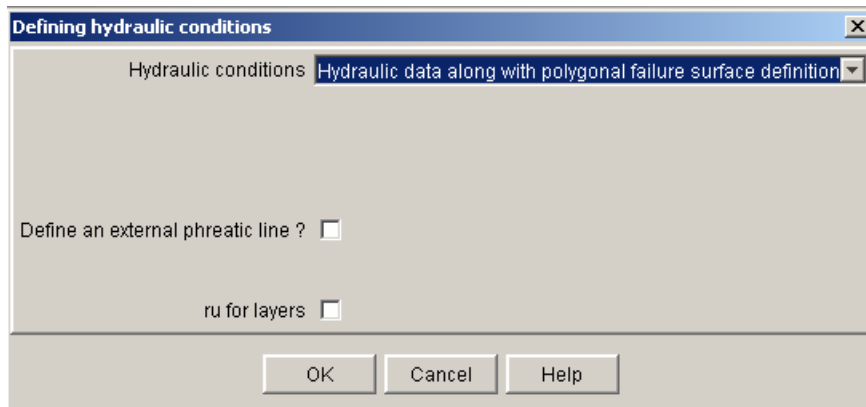

Figure 82: definition of hydraulic conditions: data along polygonal failure surfaces
- **Hydraulic data along polygonal failure surfaces:** the option “Hydraulic data along with polygonal failure surface definition” should be selected (Figure 82). This option cannot and should not be used except in the case of polygonal failure surfaces (it cannot be combined with circular failure surfaces or logarithmic spirals).